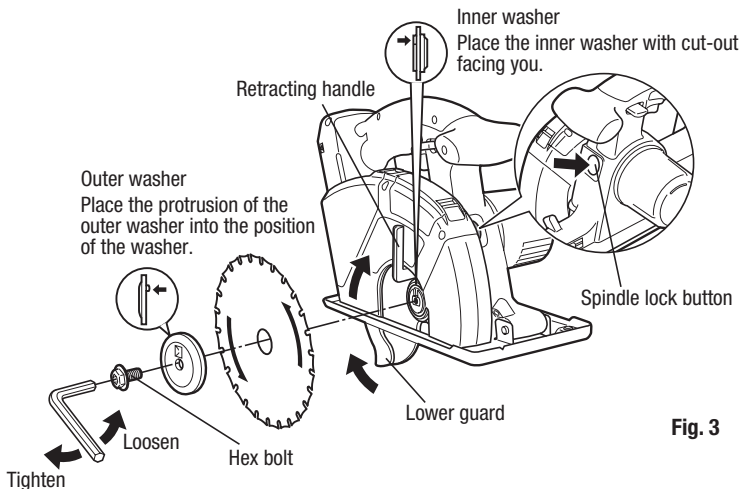

Fig. 3
2. Is the blade installed properly? Make sure the hex bolt is tightened securely (Fig. 3).
4. Install the blade as illustrated in Fig. 3. Make sure that both the direction arrow on the blade and the direction arrow on the transparent guard point in the same direction.